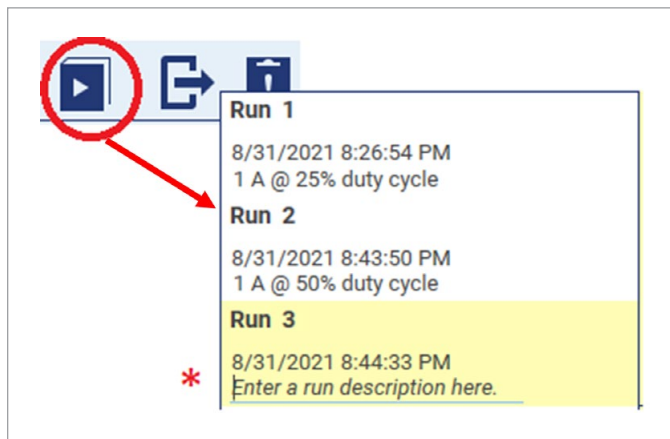

Figure 15: Use the Run History to help document changes to the app configuration.
12. Select each of the individual runs and update the area reading "Enter a run description here" to provide a general description of the test configuration run (see **Figure 15** for an example).